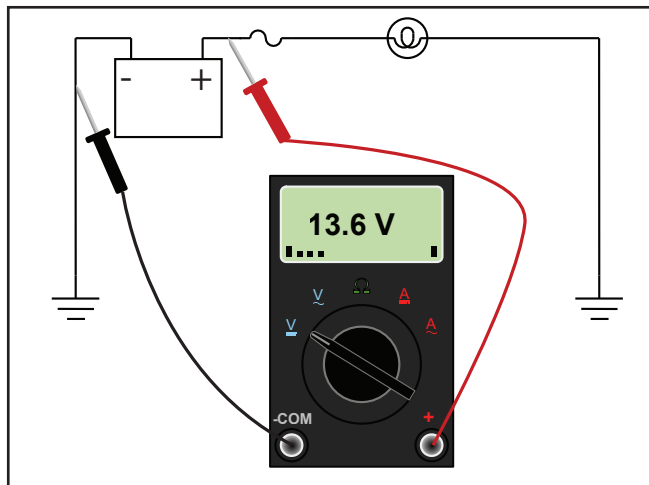

Figure 9
4. Read voltage on the meter (Figure 9).